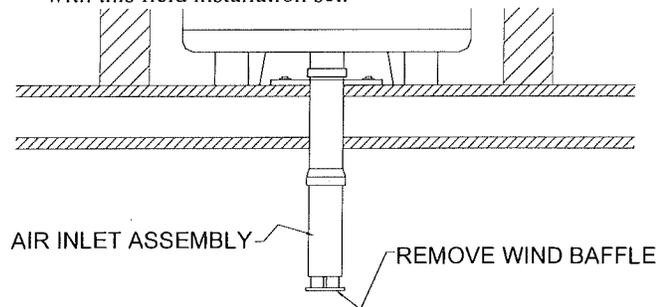

FIGURE 1
2. **AIR INLET ASSEMBLY:** Remove the screws, which attach the wind baffle to the existing air inlet vent pipe located underneath the home. Refer to Figure 1. Discard the wind baffle and screws as they are no longer required with this field installation set.